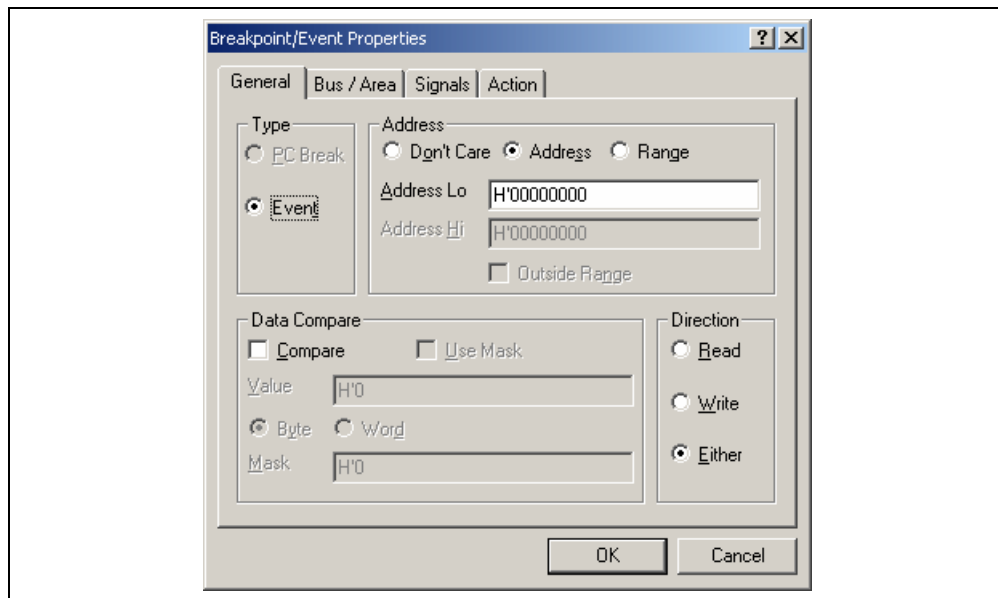

Figure 6.42 [Breakpoint/Event Properties] Dialog Box
- (2) Register the address range for trace acquisition as an event condition. Click the [Add...] button in the [Trace Events] group box on the [General] page to display the [Breakpoint/Event Properties] dialog box (see figure 6.42, [Breakpoint/Event Properties] dialog box).
- (3) Click the [Range] radio button in the [Address] group box on the [General] page of the [Breakpoint/Event Properties] dialog box. Use the [Locals] window to refer to the address on the line where variable `a`, which is defined within the `tutorial` function, is allocated (`H'00FFEF80` in this example) and enter this address in the [Address Lo] edit box. Then enter an address, which is `H'27` added to that entered in the [Address Lo] edit box (`H'00FFEFA7` in this example), in the [Address Hi] edit box. This procedure sets the memory range for variable `a` of the `tutorial` function.
- (4) Click the [Write] radio button in the [Direction] group box to set a write cycle for the specified range. This completes the setting of a memory range. Click the [OK] button to close the [Breakpoint/Event Properties] dialog box.